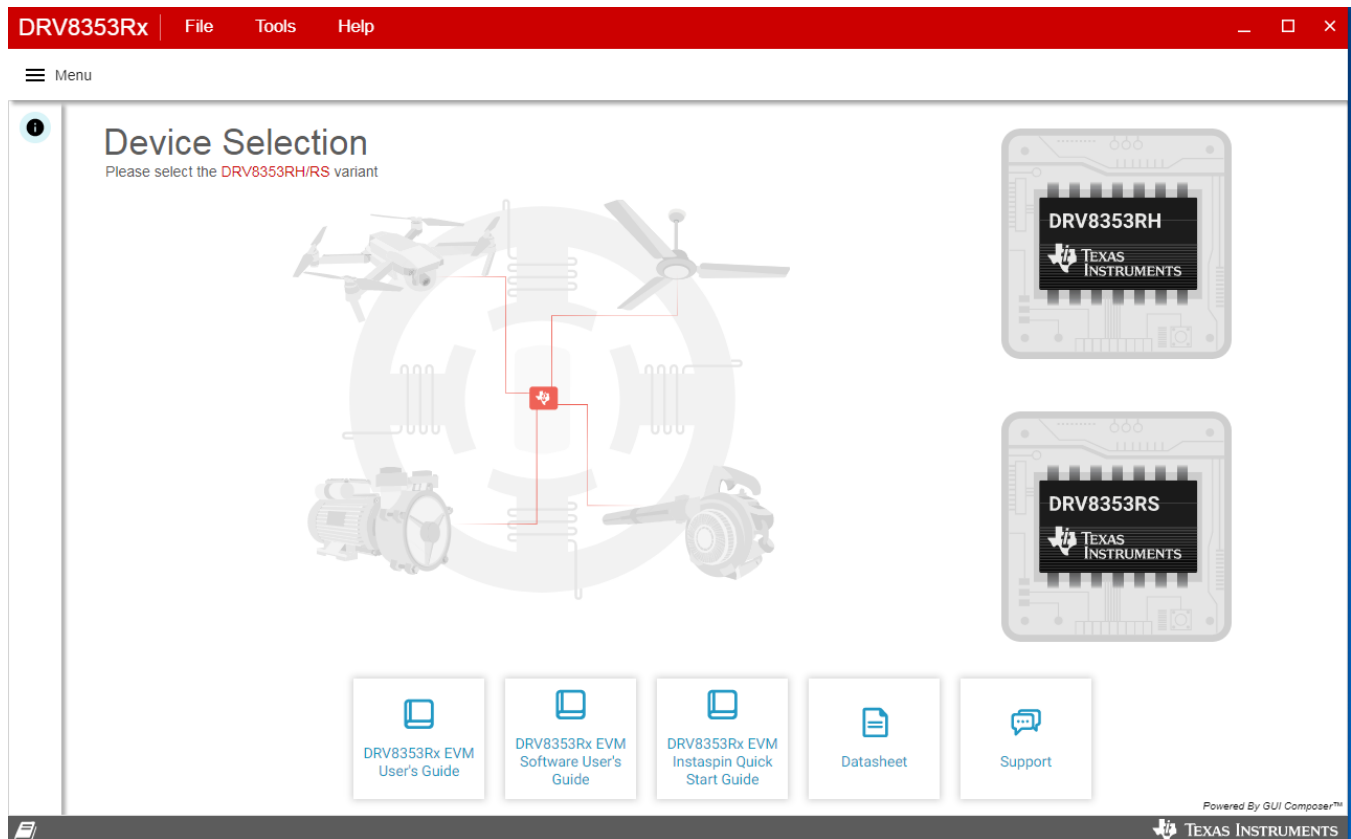

Figure 1. DRV8353Rx EVM GUI (Launch Page)
1. The Application opens up with launch page as shown in Figure 1.
3. Upon the selecting the device, the application will take you to the device's Home page as shown in Figure 1.